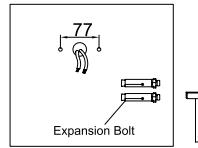

Figure 22
2. Insert expansion bolts (not included) into the mounting surface. (see Fig. 22)